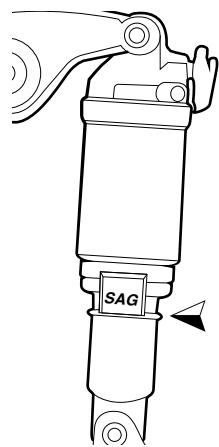

Figure 22. SAG Adjuster
- Step off your bike gently to avoid a harsh movement and measure the "SAG" (*Figure 22*). A SAG that is too weak indicates that there is too much pressure in your fork. You should therefore take out air from your suspension. Inversely, a too high SAG indicates that there is not enough, you should therefore, add air. To do this:
Your Moustache is equipped either with a sticker indicating the level of SAG with a red sliding scale. The ideal SAG has been reached when the O-ring is aligned with the red scale as in Figure 22. If the O-ring has gone further than this mark your shock needs more air. Inversely, if the ring has not reached the mark, there is too much air in your shock.